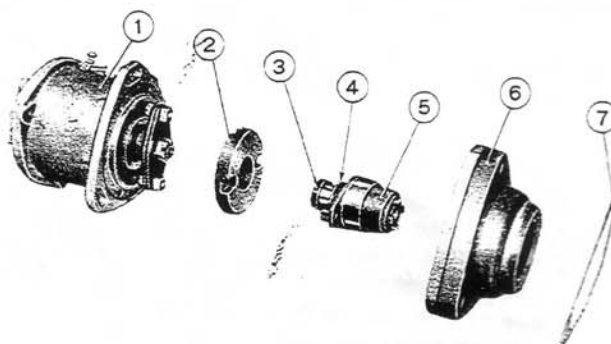

Fig. 129. - Ignition distributor and drive.
On the distributor body (1, fig. 129), insert the spacer (2) and then the coupling (5).
Having thus obtained the correct position of coupling (5, fig. 129) on distributor shaft, take down the distributor, remove the coupling and mount it on shaft with its screw (3) and lock plate (4).